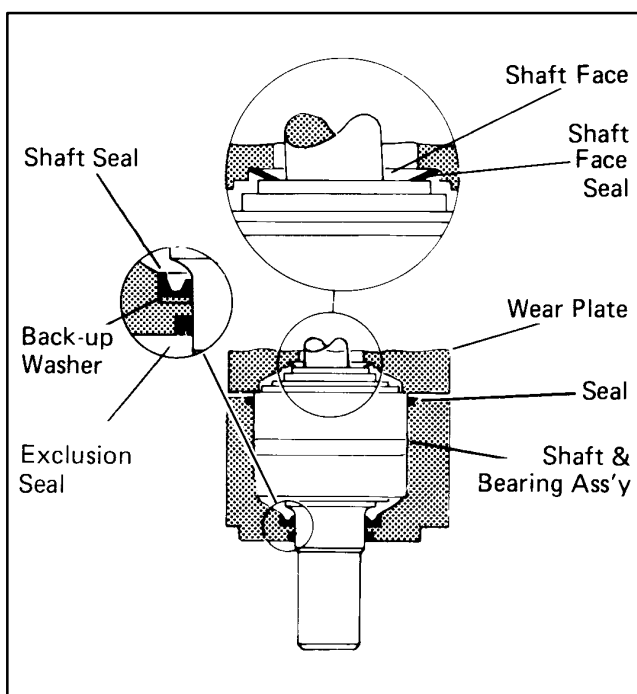

Figure 77
21. Use a press to install exclusion seal in outer bore of bearing housing. Lip of seal must face outward. See Fig. 77. If a press is not available use a plastic or rubber hammer, being careful not to damage or cock seal in the bore.
27. Install the shaft face seal in the wear plate as shown in Fig. 77. Do not distort seal.
28. Install the wear plate, see Fig. 77.
35. Install 2 springs and 2 pins in the holes located in the bore of the valve housing, as shown in Fig. 77.